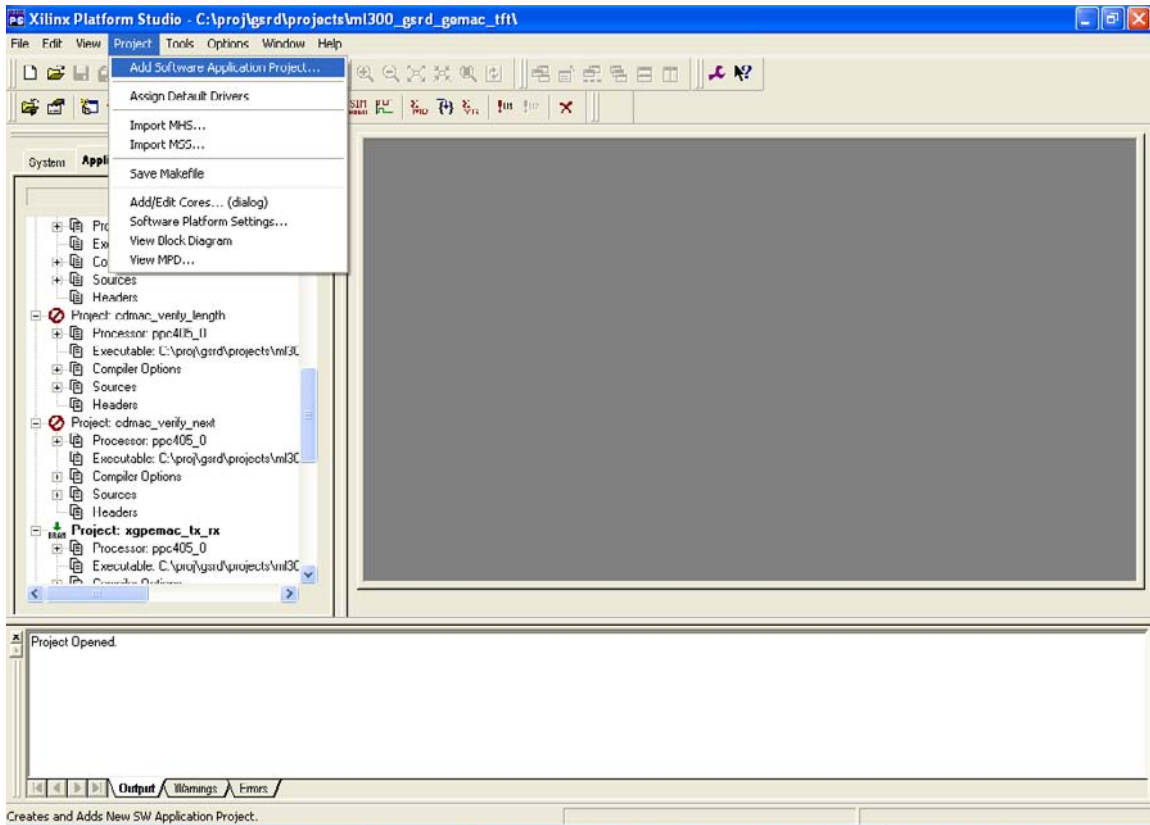

Figure 3: Add Software Application Project
7. Click on Project-Add software application project (Figure 3) to add the Treck application to the project.